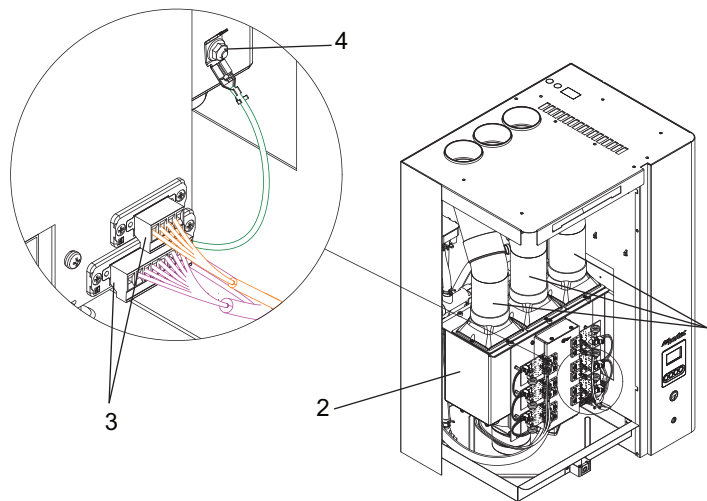

Figure 17 - Water Reservoir Connections
4. Disconnect the two electrical connectors on the water reservoir. Refer to Figure 17 - on page 46.
5. Disconnect the earth connector from the earth tab. Refer to Figure 17 - on page 46.
Install the water reservoir as follows. Refer to Figure 17 - on page 46.
5. Connect the earth connection on the earth tab. Refer to Figure 17 - on the next page.
6. Connect the two electrical connectors on the water reservoir. Refer to Figure 17 - on the next page.